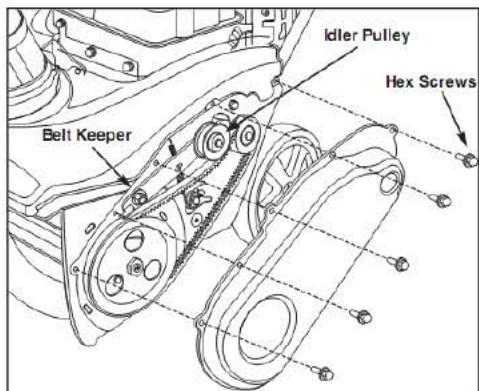

Figure 19
1. Remove the belt cover by removing the five hex screws that secure it to the frame. See figure 19.